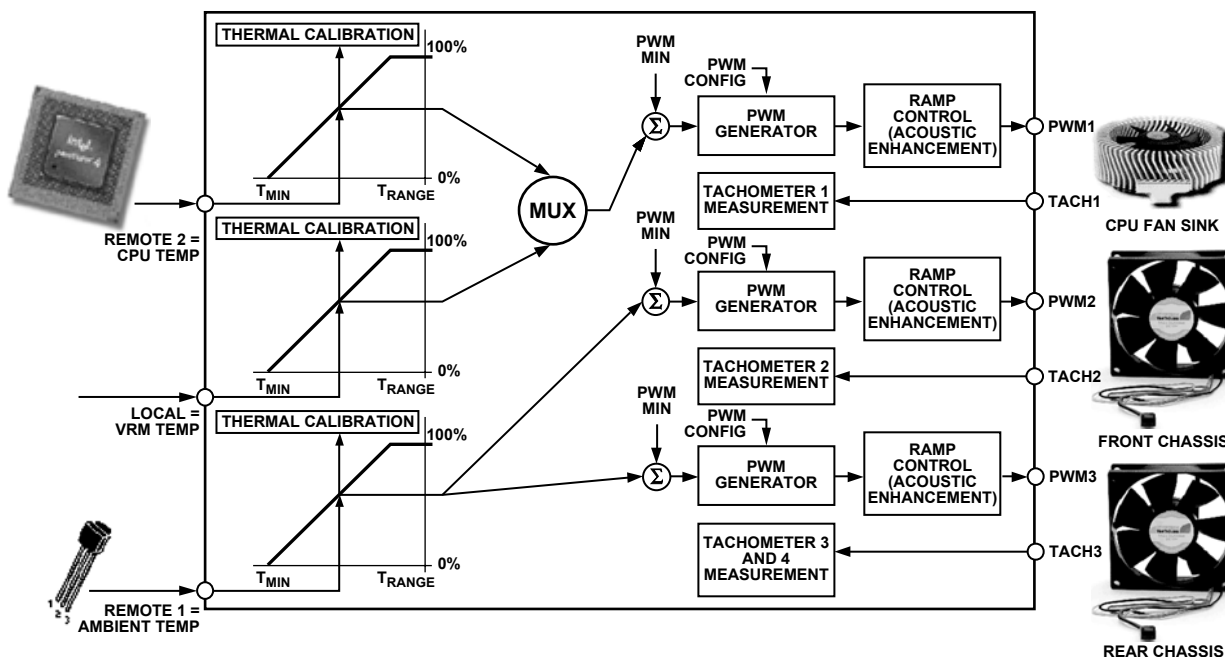

Figure 52. MUX Configuration Example
- These settings configure the mux, as shown in Figure 52.